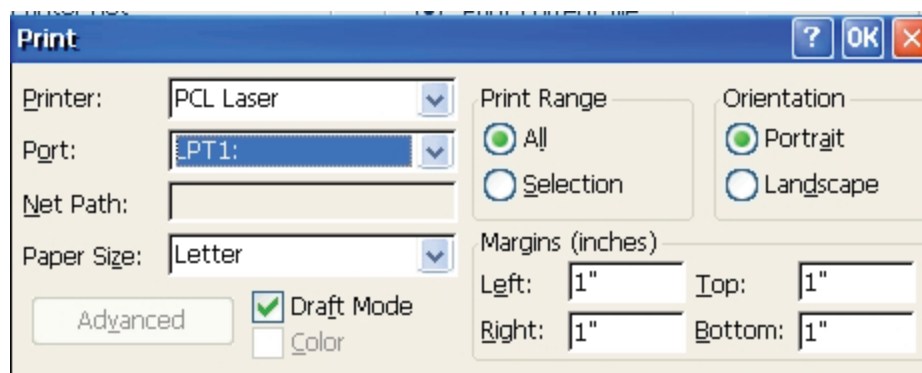

Fig. 2.3 Printer setting interface
5. While in the {Print} interface, click the  button. The printer should be displayed. (See Fig. 2.3)